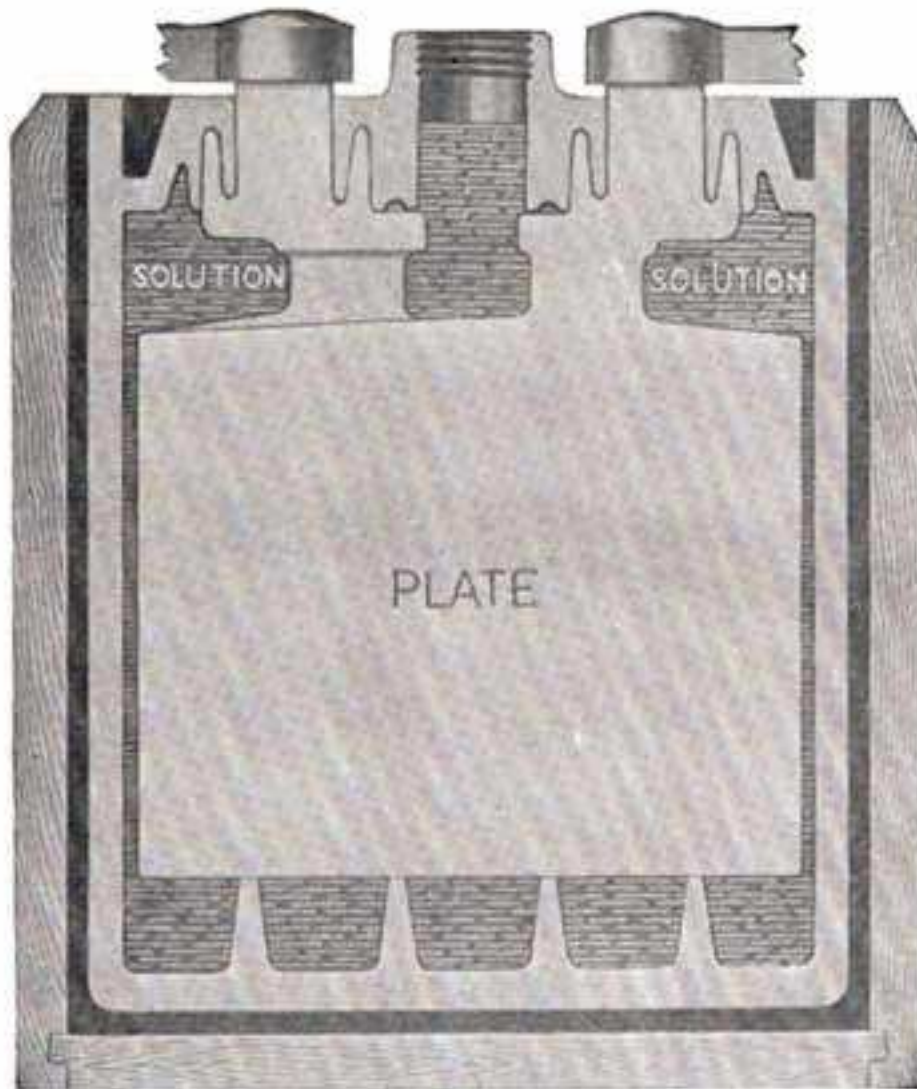

Fig. 32. Cell with level of Electrolyte too high
**Care must be taken not to add too much water to a cell,** Fig. 32. This will subsequently cause the electrolyte to overflow and run over the top of the battery, due to the expansion of the electrolyte as the charging current raises its temperature. The electrolyte which overflows is, of course, lost, taking with it acid which will later be replaced by water as evaporation takes place. The electrolyte will then be too weak. The electrolyte which overflows will rot the wooden battery case, and also tend to cause corrosion at the terminals.